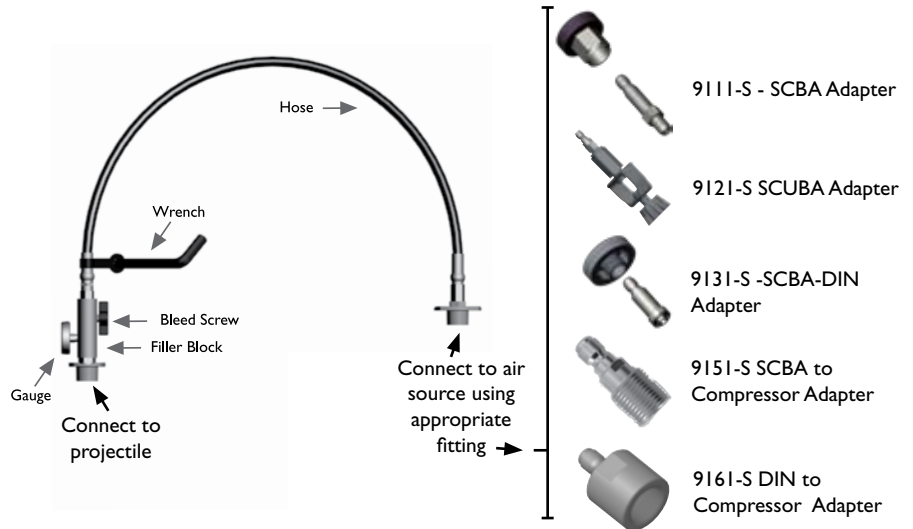

Figure 2 - Streamline Filler Hose Assembly
The **Streamline Filler Hose Assembly** is required to charge the Projectiles with compressed air. It consists of a **Filler Block** that includes a Pressure Gauge and Bleed Screw, two Quick Couplers, the Hose, and the Valve Wrench with a Lanyard. (Fig. 2)
2. Connect the Filler Hose to the Filler Hose Adapter by retracting the spring-loaded Quick Coupler on the end of the Streamline Filler Hose farthest from the Filler Block. (Fig. 2)